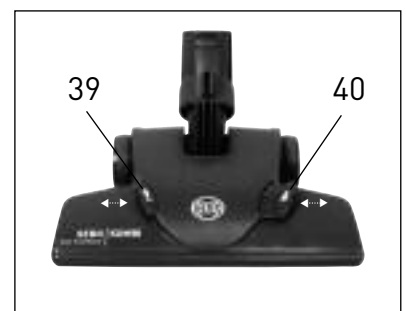

Figure 14
Kombi Nozzle - Figure 14
The Kombi nozzle is adjustable for carpet or hard floors. To set for carpet, slide the up arrow button (39) to the right until it clicks into place. The hard floor dusting brush will raise up allowing the head to move over the carpet. To set for hard floors, slide the down arrow button (40) to the left until it clicks into place. The brush will lower to gently sweep your floors. **The slider in Figure 14 is set in the position for carpet.** The brush should be cleaned regularly. Remove the Kombi nozzle from the vacuum to clean. Fibers and hair can be pulled out of the bristles manually, or vacuum the bristles using the flexible hose.